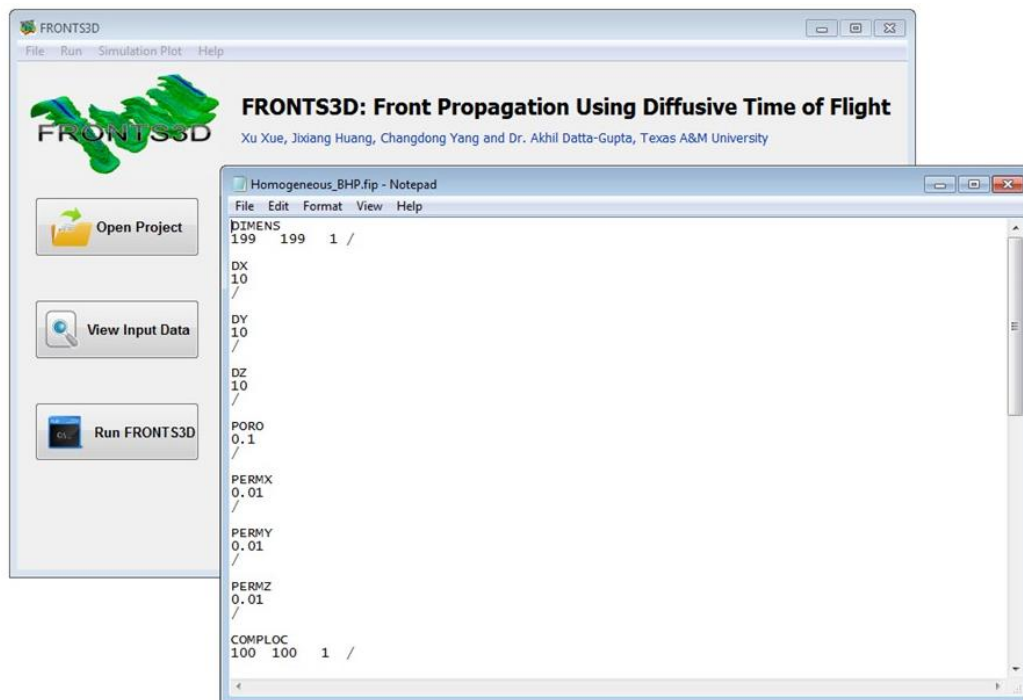

Figure 5. Input Data Panel
4. Once the data file is loaded into the interface, you can click View Input Data button on the main screen to view and modify the input data file. (**Figure 5**). You can check **Keywords Reference Manual** at the back for the keywords appear in the input data file.